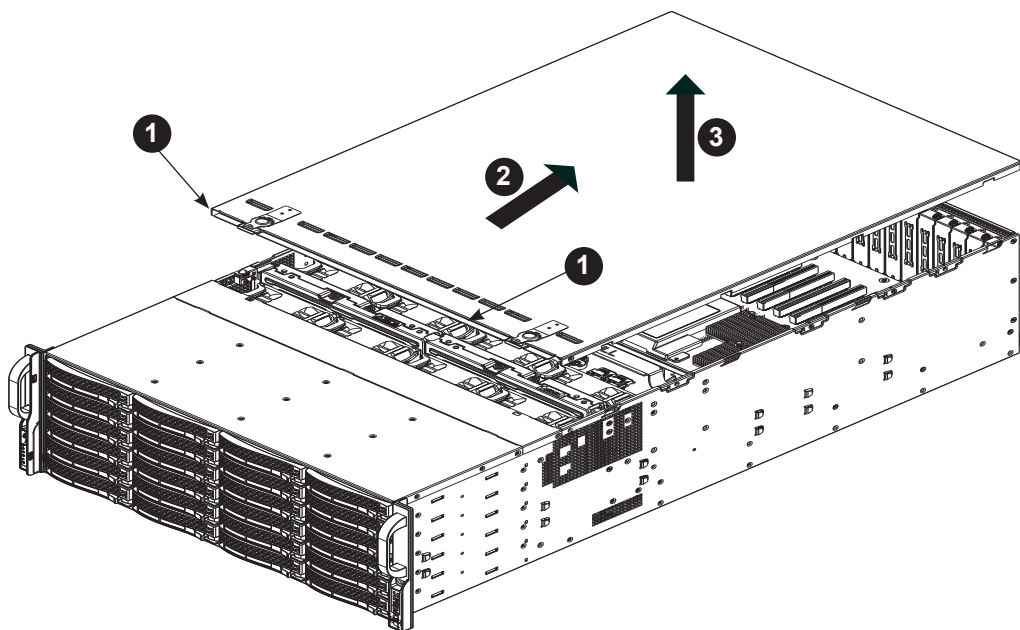

Figure 3-1. Accessing the Inside of the System
3. Slide the cover toward the rear of the chassis. See Figure 3-1.